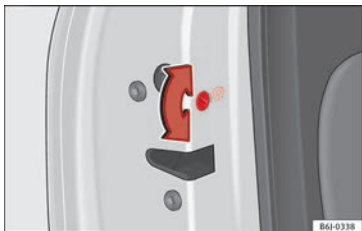

Fig. 142 Childproof lock on the left hand side door.
- With the door open, rotate the groove in the door using the ignition key, anti-clockwise for the left-hand side doors »» **Fig. 142** and clockwise for the right-hand side doors.
- With the door open, rotate the groove in the door using the ignition key, anti-clockwise for the right-hand side doors, and clockwise for the left-hand side doors »» **Fig. 142**.